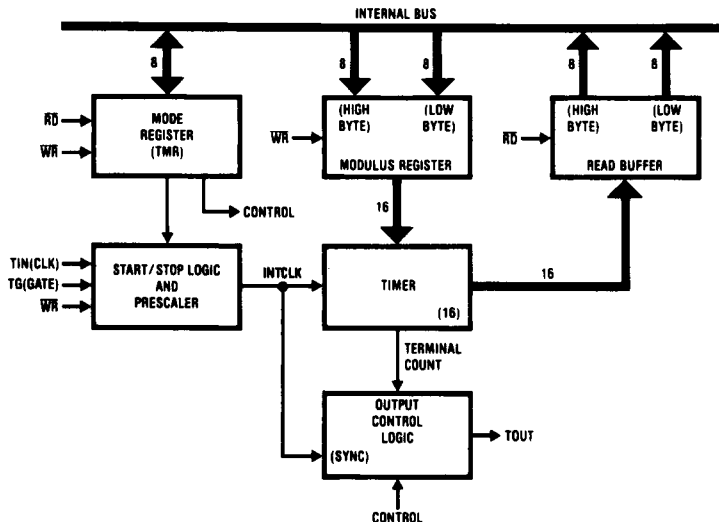

FIGURE 3. Timer Internal Block Diagram (One of Two Timers)
Primary components of one timer are shown in Figure 3. The timer mode register is a read/write register providing
the primary characterization of the timer output. The start/stop logic and prescaler block divides the clock input by the prescale factor, passing the output (INTCLK) to the binary down-counter. This block also gates the clock input signal (TIN) with the timer gate signal (TG). The timer block loads the modulus from the modulus register and uses (INTCLK) to count to zero. It loads the current count into the read buffer block where the CPU can access it at anytime. This timer block also indicates to the output control logic when the modulus is loaded (or reloaded) and when the count reaches 0. The output control logic block drives the output pins according to the timer mode register and the timer block. The output of the timer block (*Figure 3*) (terminal count) is related to the input TIN by:
The timer prescale divides the input clock (TIN) and provides the output (INTCLK) to the drive the timer block (Figure 3).